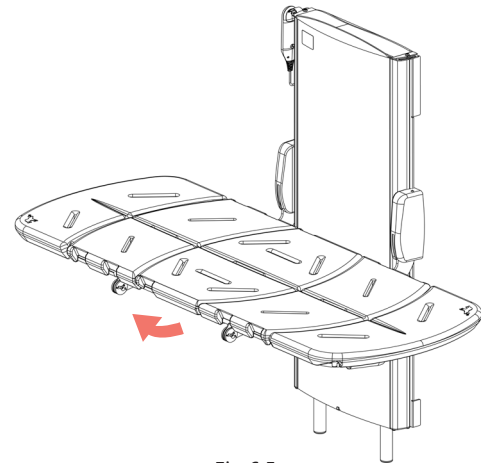

Fig 6.5a
- Reach underneath the stretcher and take hold of the guard. The guard is retained using magnets. (Fig 6.5a)